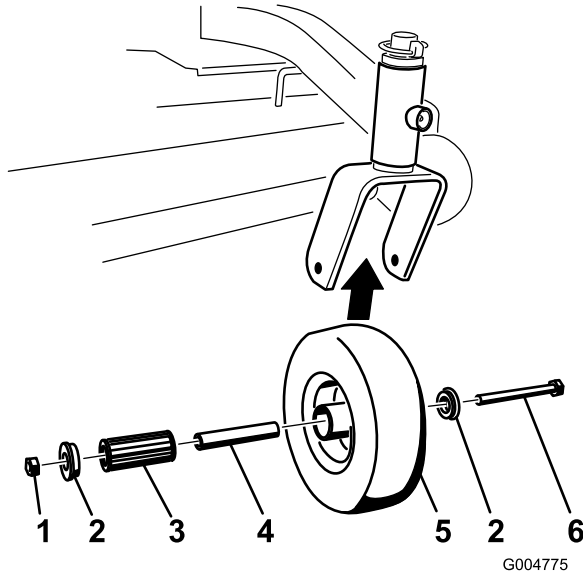

Figure 59
1. Remove the locknut and wheel bolt holding the caster wheel to the caster fork (Figure 59).
2. Remove one bushing, then pull the spanner bushing and roller bearing out of the wheel hub (Figure 59).
3. Remove the other bushing from the wheel hub and clean any grease and dirt from the wheel hub (Figure 59).
4. Inspect the roller bearing, bushings, spanner bushing and inside of the wheel hub for wear. Replace any defective or worn parts (Figure 59).
5. To assemble, place one bushing into the wheel hub. Grease the roller bearing and spanner bushing and slide them into the wheel hub. Place the second bushing into the wheel hub (Figure 59).
6. Install the caster wheel into the caster fork and secure with the wheel bolt and locknut. Tighten the locknut until the spanner bushing bottoms against the inside of the caster forks (Figure 59).